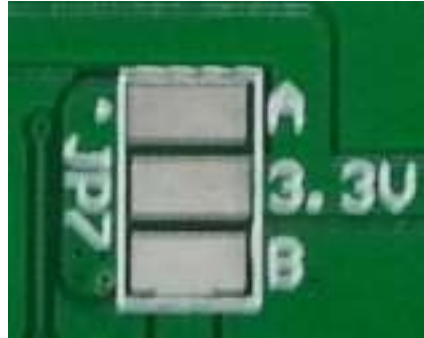

Figure-9: JP7 soldering can select 3.3V PCIe power supply to host/device side
JP7 on the solder side selects 3.3V power supply to PCIe host side and device side. In the figure-9, center pad is connected to 3.3V power supply source of this adapter board. And short to the upper pad by solder can supply 3.3V to the host (A) side PCIe power supply, while short to the lower pad can supply 3.3V to the device (B) side PCIe power supply. Factory default setting is short between center and lower pad, so 3.3V is supplied to PCIe device side only.